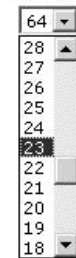

Figure 6-21 — Volume drop box
3. Click the Volume Steps (64 Max) drop box. A drop-down scroll box appears (figure 6-21).
NOTE Individual controls, offering finer trim adjustments (in 0.1 dB increments) for the right and left channels and group master offsets are present in the DSP (see "DSP Configurator Program", in chapter 5, "Switcher Software"). These controls are not shown in the volume display shown in figure 6-21.